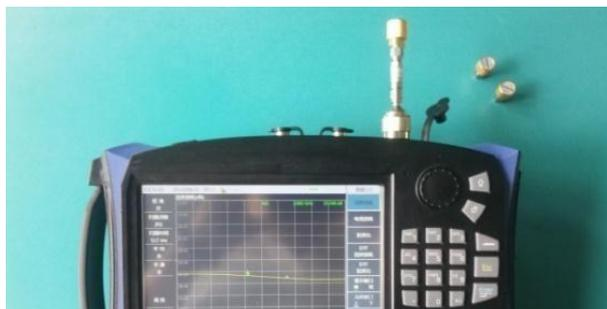

Figure 3.14 Attenuator Measurement Connection Diagram
4. After calibration, connect the measured attenuator to Analyzer and the match load to the terminal of attenuator as shown in Figure 3.14.